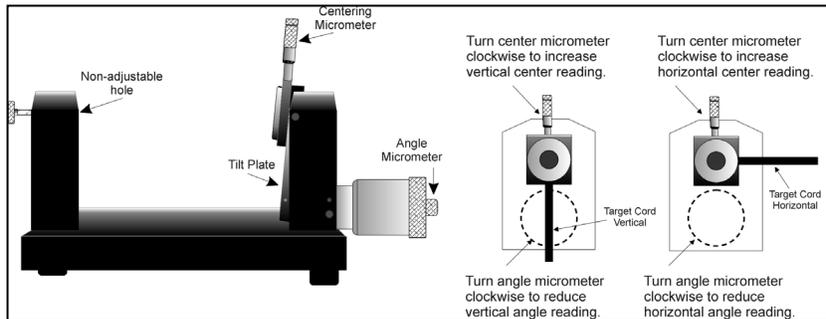
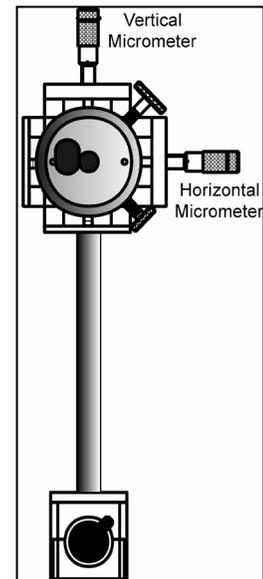

Figure 17 – Model A-807 Calibration Mounting Fixture
Figure 18 – T-230 Target Stand
Note: Figure 17 shows the target mounted in the Hamar Laser A-807 fixture stand. In order to take advantage of the automated calibration features available with the Read8 software, this fixture stand must be used for calibrating center and slope targets. Mount the laser in the non-adjustable hole on the fixture. Mount the target in the tilt plate with both the target and laser in the normal position (cord down).
An appropriate target stand with micrometer stage, such as the Hamar Laser T-230, or any calibrated x-y slide may be used when calibrating center-only targets (see Figure 18).
Note: The preferred procedure is to calibrate the vertical axes, both center and slope if appropriate, then rotate the target in the fixture 90 degrees and calibrate the horizontal axes (see Figure 17). If working with a fixture that has a horizontal micrometer, there is no need to rotate the target (see Figure 18).
Note: If using the Model A-807 Calibration Mounting Fixture, (see Figure 17) the target must be rotated 90° before performing a horizontal calibration. If the calibration fixture you are using has two centering micrometers, such as the T-230, the horizontal centering micrometer may be used and there is no need to rotate the target.
In order to use the automated features of the Read8 software, calibration for a center-and-slope target must be performed with the target mounted in the A-807 calibration mounting fixture (see Figure 17). This fixture is equipped with both a centering micrometer and an angle micrometer.
- Note: If using Model A-807 Calibration Mounting Fixture, (see Figure 17) the target must be rotated 90° before performing a horizontal calibration. If the calibration fixture you are using has two centering micrometers, such as the T-230, the horizontal centering micrometer may be used and there is no need to rotate the target.*